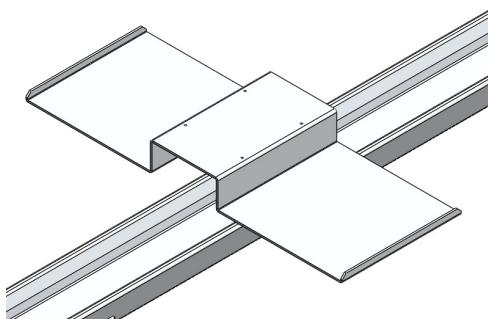

Fig. 14 – Install Tray 'top-down' on Rail
- 2 Install Ballast Trays under PV panels, top-down, onto rails (see example illustration, Figure 14). Refer to the *Shading Diagram*, provided separately, for configuration requirements. Install 4 TEK screws through tray and rail.